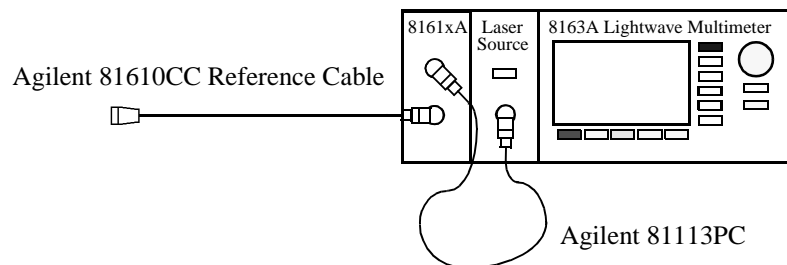

Figure 16 Measuring the Return Loss of the Reference Cable - External source
- 1 Attach the source to the Return Loss module’s input as shown in Figure 16. Attach the high return loss connector of the reference cable to the output.